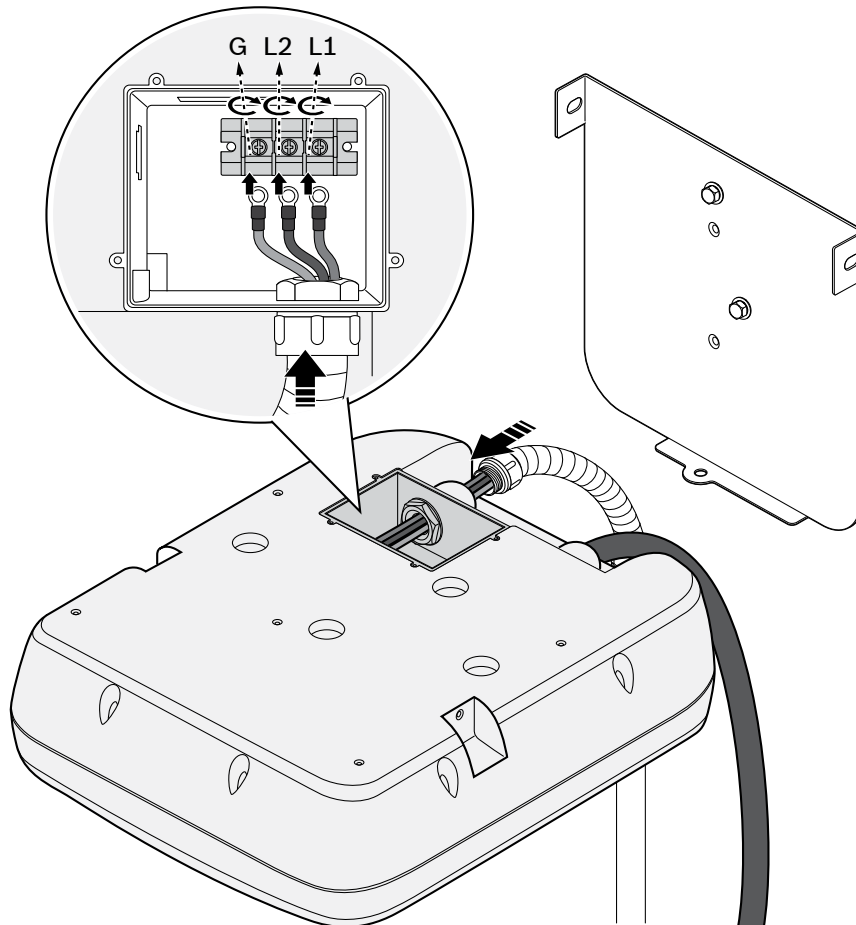

Figure 4-4. Electrical wiring with detail of input terminal block
2. See Figure 4-2. Choose appropriate conduit in accordance with all applicable state, local, and national electrical codes and standards. Use flexible conduit when connecting to the rear of the Level 2 Charging station to facilitate rotation and installation on mounting bracket (Figure 4-4).
- See Figure 4-4. Install ring terminal eyelets on each wire end and connect each to the correct terminal input block connector. Use copper wire of the appropriate size to operate the EVSE at its rated amperage output. Replace the compartment cover and torque to 4.6 lb·in (0.5 N·m).